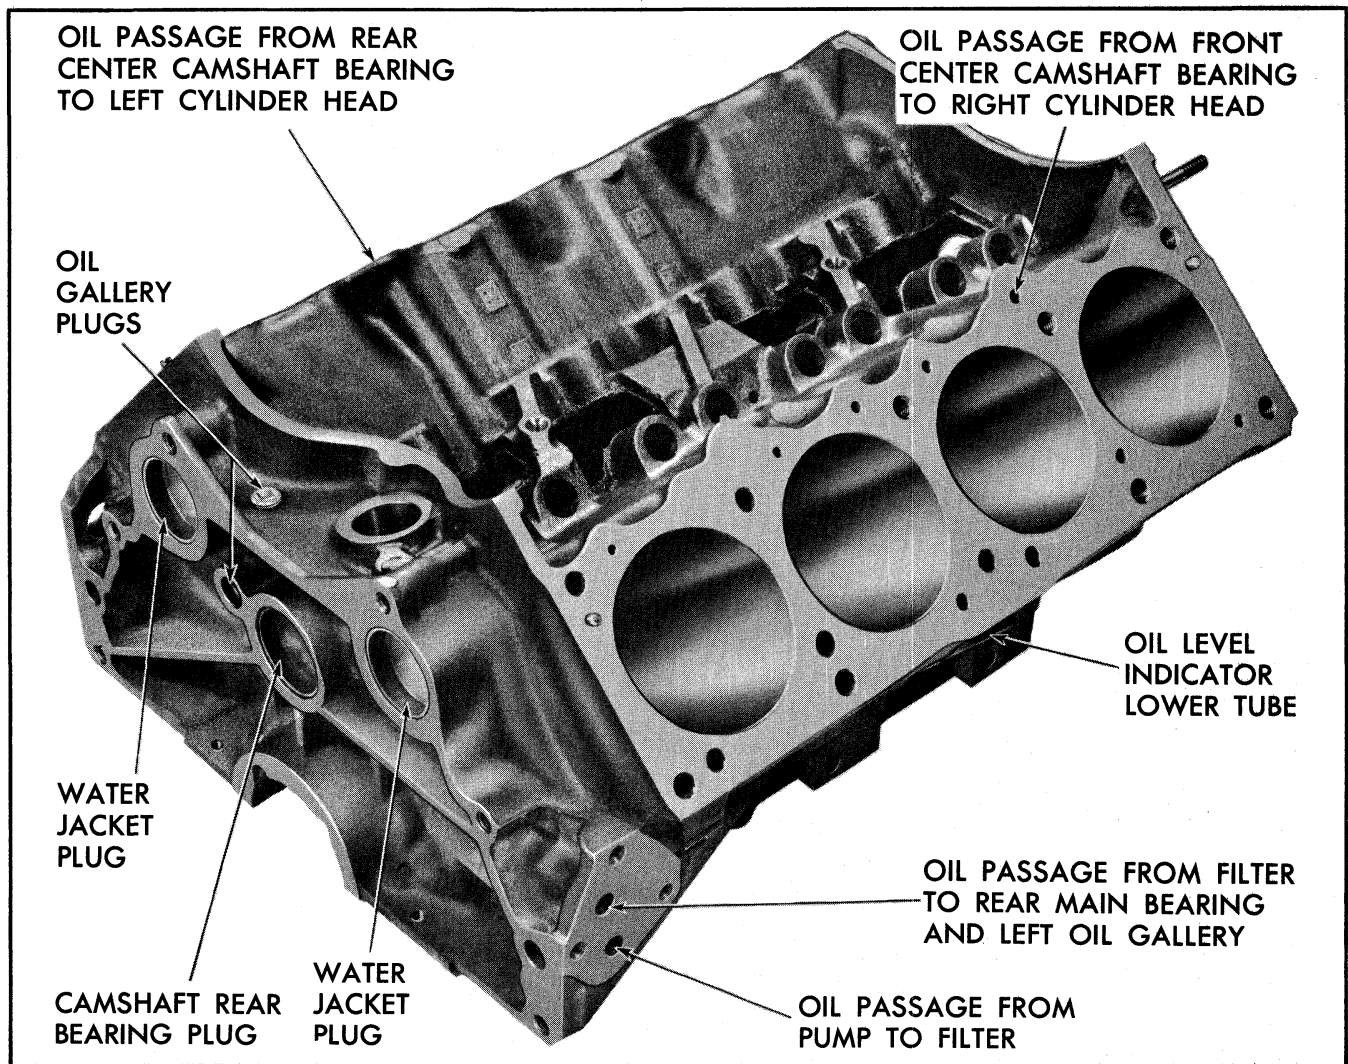

Fig. 6-152 Cylinder Block - View From Right Rear
b. Check passage from filter outlet to rear main bearing by inserting wire in oil filter outlet passage and using pen light to see that wire is visible in passage to rear main bearing (Fig. 6-152).
f. Check oil passages to right bank lifter bosses. Use rubber hose to blow smoke in passage from front main bearing to right main oil gallery while observing for smoke passing out passages from right gallery to lifter bosses (Fig. 6-152).
g. Visually check passage from rear center camshaft bearing to left cylinder head and passage from front center camshaft bearing to right cylinder head (Fig. 6-152).